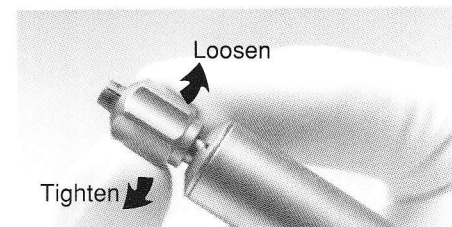

Figure 17
1. Loosen locking nut, turn counter-clockwise. See Figure 17.